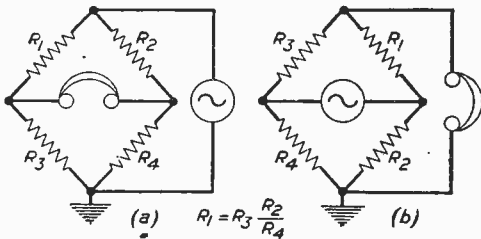

Fig. 1.—Typical bridge circuits.
**O**FTEN the amateur comes across a bridge circuit that is driven either from a buzzer or separate audio oscillator, and uses a pair of phones as a detecting device. Quite a lot of people object to phones and a visual tuning indicator is a favourite alternative, but for its use one side of the bridge must be earthed. Look for a moment at a typical bridge circuit, Fig. 1. In (a) the input is earthed, whilst in (b) one side of the phones that are used as the indicator are earthed. If compared carefully it will be seen that the balance formula holds good in both cases. It is quite a simple matter to turn the bridge on its side, as it were, in order to use the earthed detector, but this means that the tone must be applied between two non-earthed